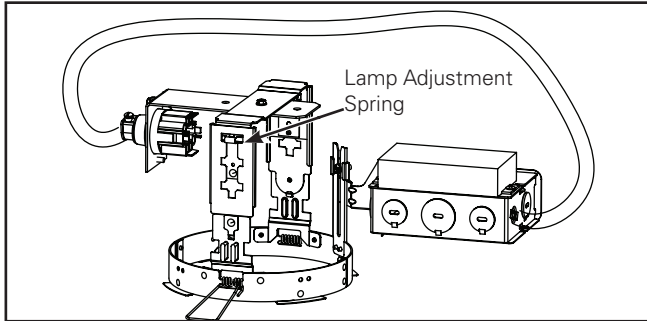

Figure 3.
4. Reattach J-Box arm to mount bar. J-Box should rest on ceiling. Assure spring is in upper most slot (lamp adjustment springs, Figure 3.).